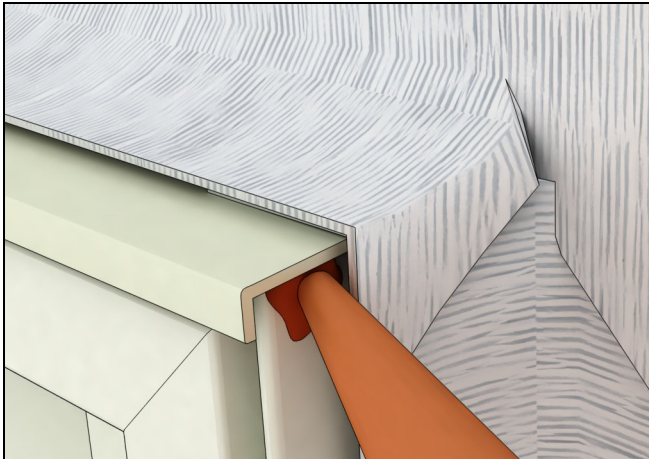

Figure 68
9. Seal the ends of the rigid head flash by injecting sealant at each end. See Figure 68.